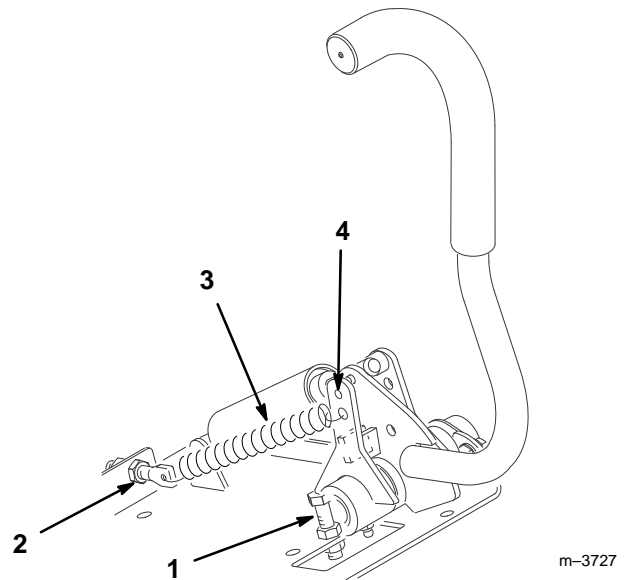

Figure 32
1. Loosen nuts on stop bolt below control assembly (Fig. 32).
1. To adjust tension loosen nuts on the eye bolts holding the springs to mounting plate (Fig. 32).
2. To reduce tension thread nuts off eye bolts (Fig. 32). Tighten nuts to hold new set position.
3. To increase tension thread nuts onto eye bolts (Fig. 32). Tighten nuts to hold new set position.
4. If greater tension is desired, the front hook of the springs can be moved to the outer hole in the control assemblies (Fig. 32).